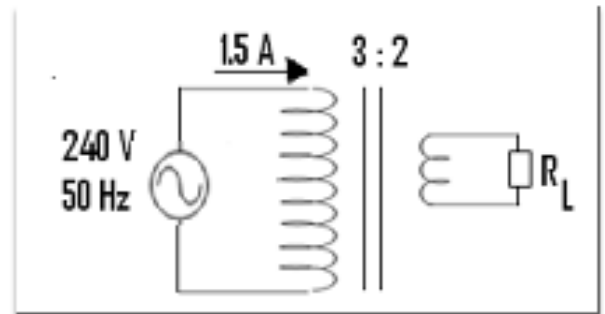

Figure 1
1. By referring to Figure 1 below, determine the following: